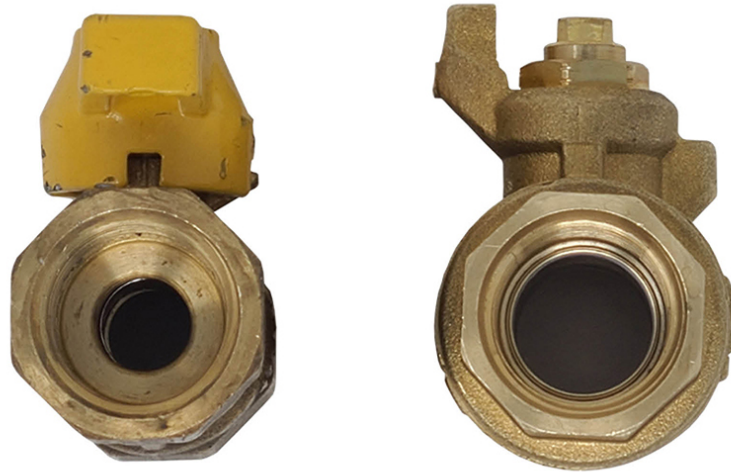

Figure 5. Reduced port (left). Full port (right)
The size of the hole or port in the ball may vary. A full port ball valve has the same internal hole size as the nominal pipe size connections. A reduced port ball valve, also known as a standard port ball valve, has an opening through the ball that is one pipe size smaller than the valve's nominal pipe size connection (Figure 5).
- Figure 5. “Reduced port (left). Full port (right)” by Rod Lidstone is licensed under a CC BY-NC-SA licence.